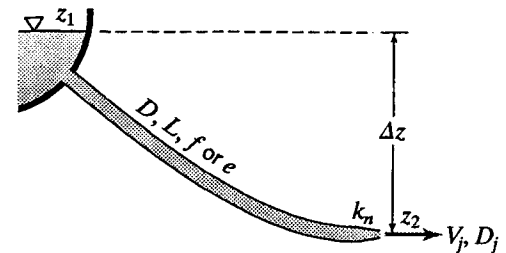

Figure P16.10
16.10 Water is delivered from a reservoir through a 1200-mm-diameter pipe ( $f = 0.022$ ) 3200 m long to a nozzle that emits a 200-mm-diameter jet (Fig. P16.10). The jet impinges on the buckets of an impulse turbine, pitch diameter 2.5 m, which drives a 16-pole generator that produces 50-Hz electricity. The surface of the reservoir providing the water is at an elevation 800 m higher than the nozzle. Assume that the head loss through the nozzle can be expressed as  $0.05V_j^2/2g$  where  $V_j$  is the jet velocity. Find the following: velocity of flow in the pipe, jet velocity, flow rate, speed of the buckets, value of  $u/V_1$ , net head, force  $F$  on the bucket, torque on the wheel, shaft power, power at the base of the nozzle, and overall turbine efficiency. Assume  $\beta_2 = 165^\circ$  and  $v_2 = v_1$ ; neglect bearing friction and windage.